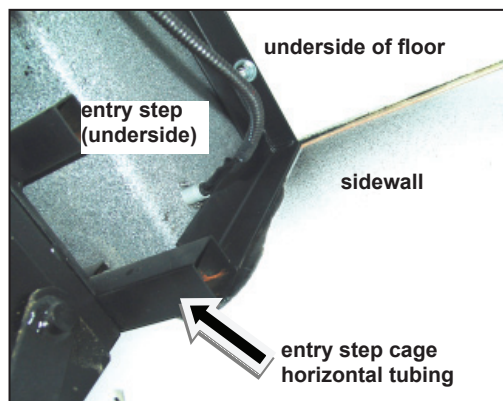

Figure 1 - Step cage attachment area prior to repairs
5. Refer to Figures 1 and 2 to install new support brackets (included with the repair kit) to the horizontal tubing of the step cage, and into the back side of the sidewall. (Figure 1 shows the area before repairs are made.)